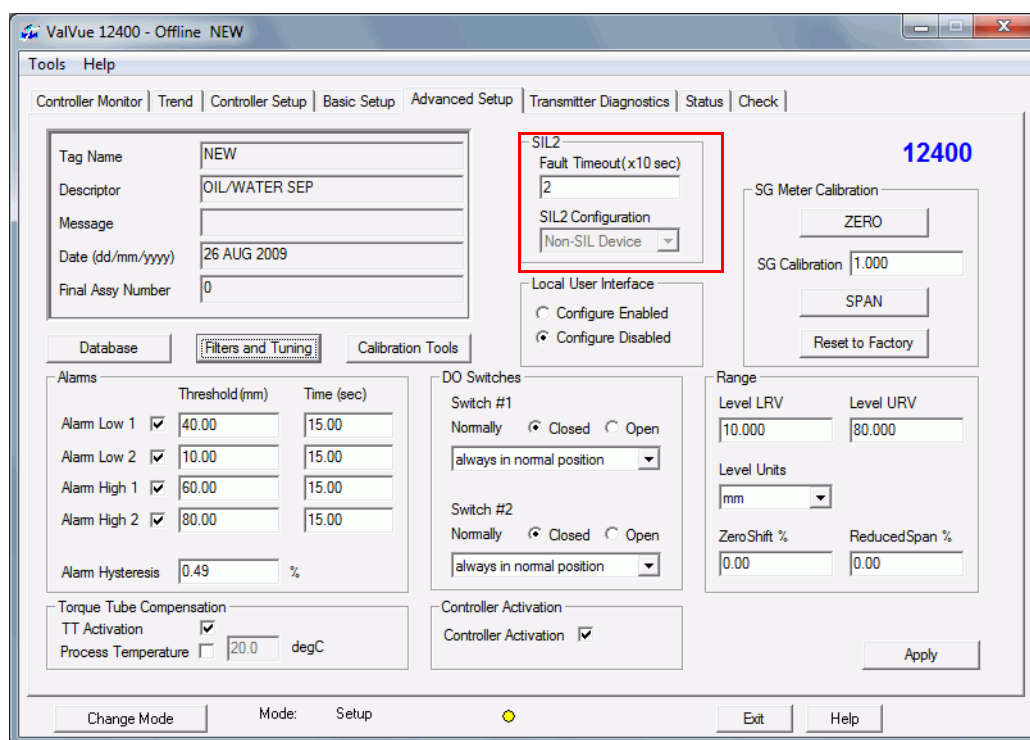

Figure 206 Starting Filters and Tuning
- Click **Filters and Tuning** (Figure 206).